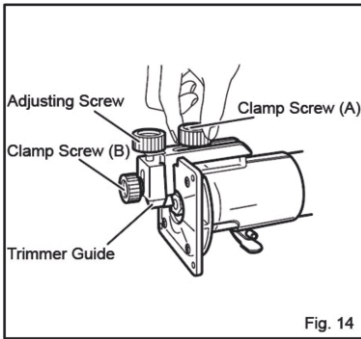

Fig. 14
Install the trimmer guide on the tool base with clamp screw (A). Loosen clamp screw (B) and adjust the distance between the bit and the trimmer guide by turning the fine adjusting screw (1 mm or about 3/64" per turn). At the desired distance, tighten the clamp screw (B) to secure the trimmer guide in place. (**Fig. 14**)